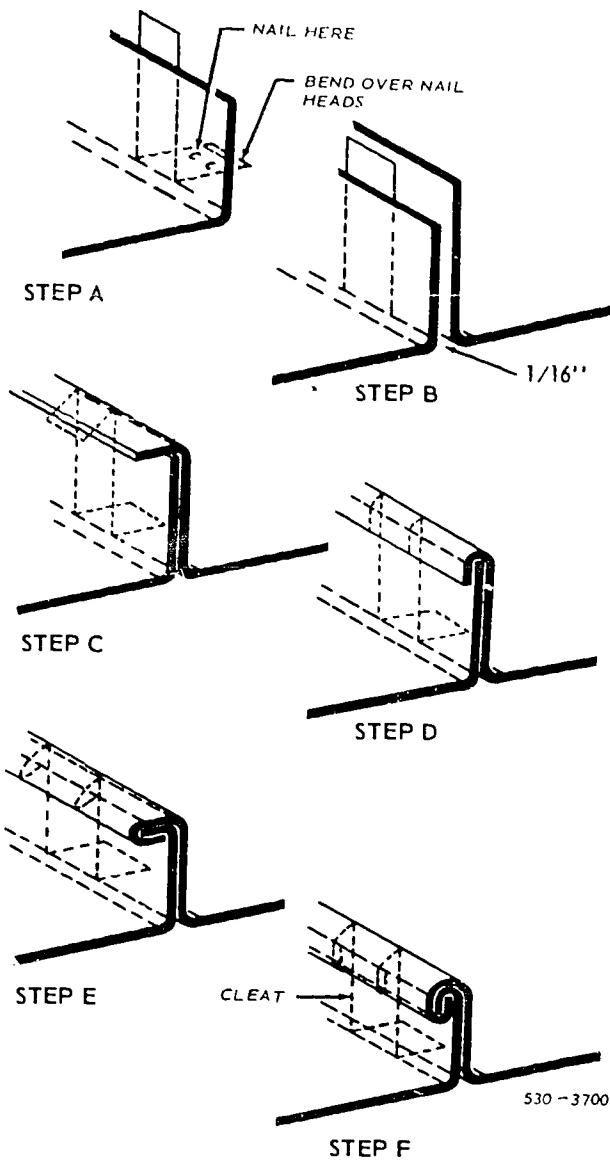

Figure 3-3. Roof standing seam.
*Roofing standing seams.* Roofing standing seams are generally used with flat sheets on pitched roofs. These seams are not soldered and, therefore, should not be used with a roof having a slope of less than 3 inches to the foot. A roof slope of 4 inches or more (to the foot) is desirable. Standing seams allow for expansion and contraction if you leave a 1/16-inch space (step B of fig. 3-3). Fasten the metal to the roof with cleats that are spaced 12 inches apart. Nail the cleat to the roof so that the upright part of the cleat is flush against the 90° flange of the preceding sheet. After nailing the cleat to the roof, bend the remaining flat part of the cleat over the nail heads. This prevents the heads from working through the top sheet that is to be installed next.
As in step B of figure 3-3, place the second sheet to be installed. It also has a flange turned up 90°, but, this flange extends above the flange on the first sheet. Bend this longer flange over the shorter flange to form the standing seam. In step C, you can see how this 90° bend is started. In step D, bend the metal to 180° to form the standing seam. In steps E and F, you can see how to bend the standing seam another 180° to complete the double seam.
The double seamer, shown in view C of figure 3-8, is used to make double seams from standing seams (see fig. 3-3). The bends are made with the folding jaws, and the edges are flattened with the squeezing jaws. These double seamers are available in two sizes. The common gage size is used to make  $\frac{3}{4}$ -inch standing seams. The double seamer folds the metal  $\frac{3}{4}$  inch (or 1 inch) above the  $90^\circ$  flanges. The flanges, as shown in steps C and D, show that this bend is different from a standard standing seam because of the length of the material being bent.
Fasten the roof cap to the roof deck with cleats. Insert the grooved (flat) seam edges of the ridge cap halves into the pockets of the roofing sheets, and flatten the seams. Using a double seamer, turn and flatten the pocket for the standing seam on the ridge in the same way as for the seam shown in figure 3-3. However, you must use a conventional seamer and a mallet to fold the seam completely over in (view E of fig. 3-13).
*Installing a roof with standing seams.* Procedures for installing a roof with standing seams are shown in figure 3-14. View A shows that the deck is covered with roofing felt, and some of the sheets are installed with double lock standing seams like the seams shown back in figure 3-3.